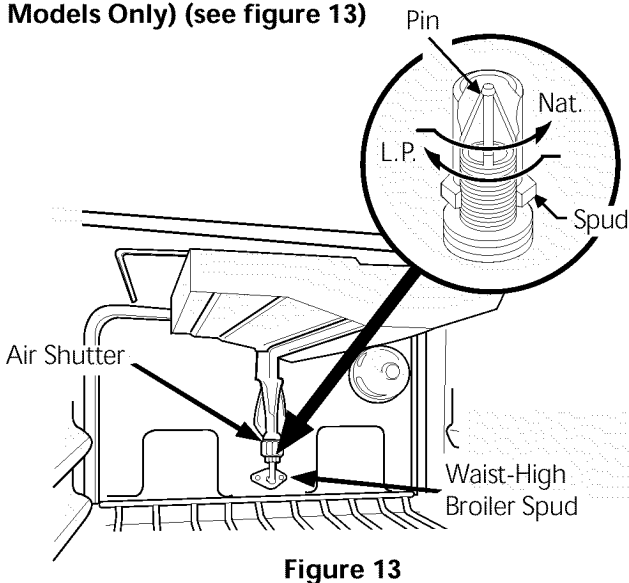

Figure 13
C. Adjust Broiler Burner Orifice (Self-Cleaning Models Only) (see figure 13)
Using a ½" wrench, turn down the adjustable spud which injects gas into the oven burner. Spud approximately 2½ turns until snug against the LP metering pin. Do not overtighten (see figure 13).